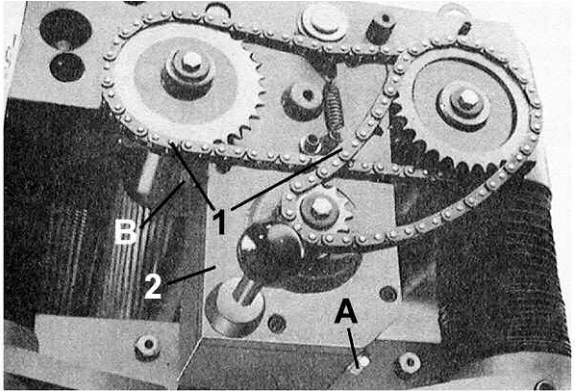
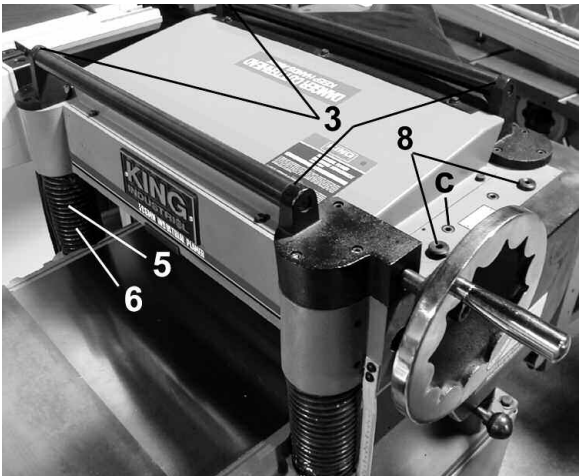

FIGURE 30
FIGURE 31
1. Remove the drain plug (A) Fig.30 and oil level cap (B), drain dirty oil thoroughly.
2. Reposition and tighten the drain plug (A).
3. Remove cap screw (C) Fig.31 and pour oil through cap screw hole. Fill the gear box with oil until the oil starts coming out of the oil level cap hole (B).
4. Reposition and tighten the oil level cap (B) and the cap screw (C).